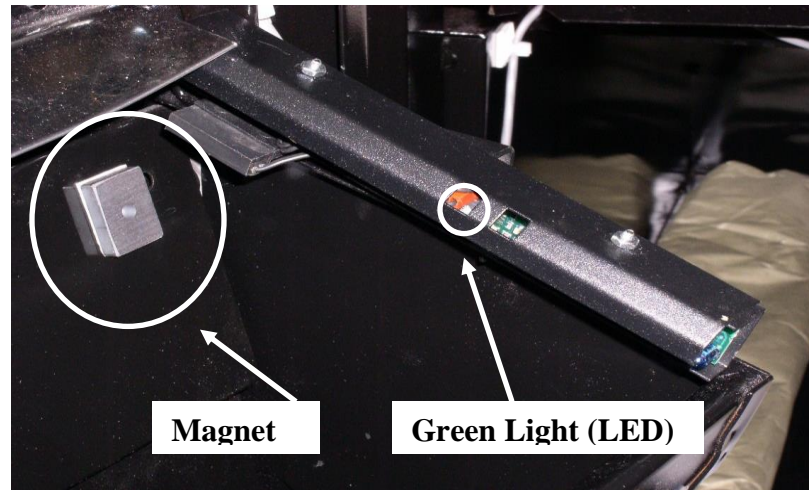

Figure 7 (Typical representation)
12) Move delivery door up and down. Green light (LED) on sensor board should go on when door is 1/2 to 2/3 open and go off when delivery door is 3/4 closed. Adjust magnet to get proper results. When proper placement is found remove backing on two-sided tape and affix firmly to delivery door. **(Figure 7).**